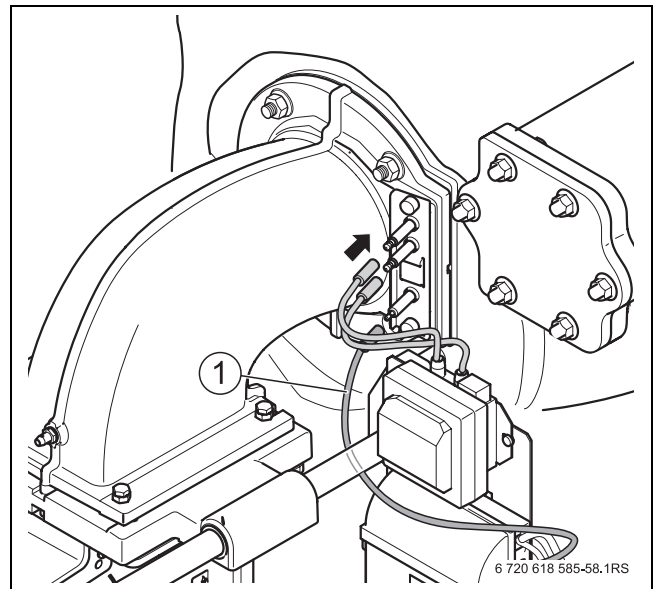

Fig. 63 Plug-in connection at the electrode block
- ▶ Plug all necessary cables into the gas valve and fan, and the plug-in connections into the electrode block. During this step, route ionisation cable [1] as shown in Fig. 63 (below the guide rod).